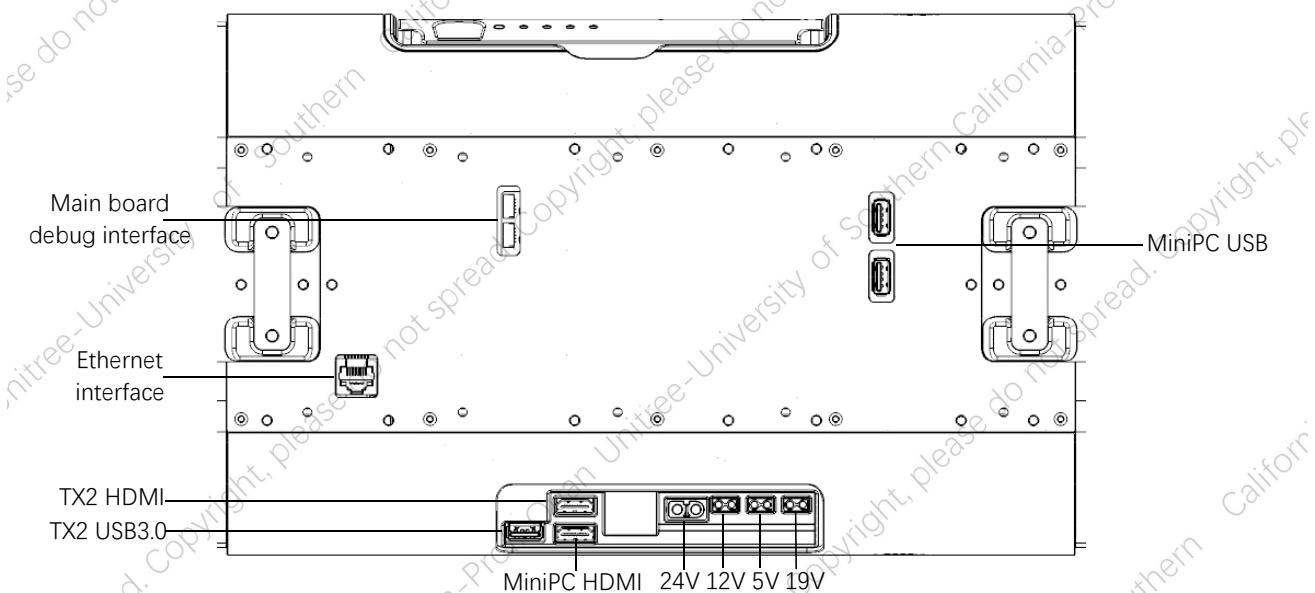

Figure 2 Introduce "Master or Joint Motor" Upgrade Connector and other Connector
1. First connect one end of the serial cable to the USB port of the computer, the other end to the robot, and then turn on the power of the robot (Currently the connector port does not support hot plugging, so you need to connect the serial port first and then power it on). If you need to upgrade the "master or joint motor", you need to connect the serial cable to the connector shown in Figure 2 of "Mainboard debug interface", 24V is the input interface, 5V, 12V and 19V are the output interfaces.